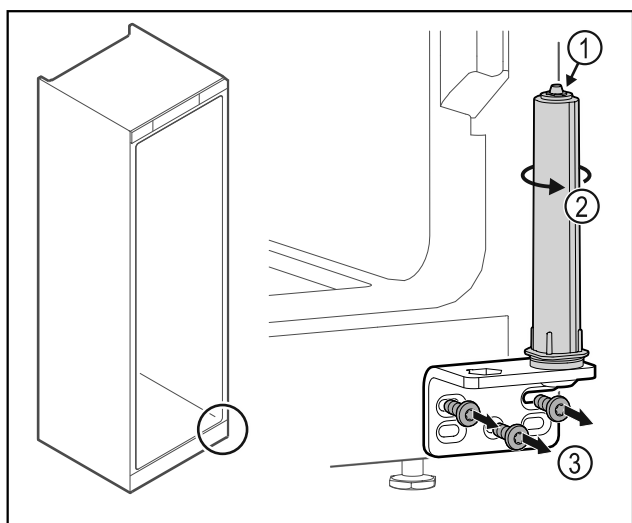

Fig. 23
- Do not disassemble the door closing system Fig. 23 (1).
- Turn the closing system Fig. 23 (2) until it clicks.
- Unscrew the hinge Fig. 23 (3).